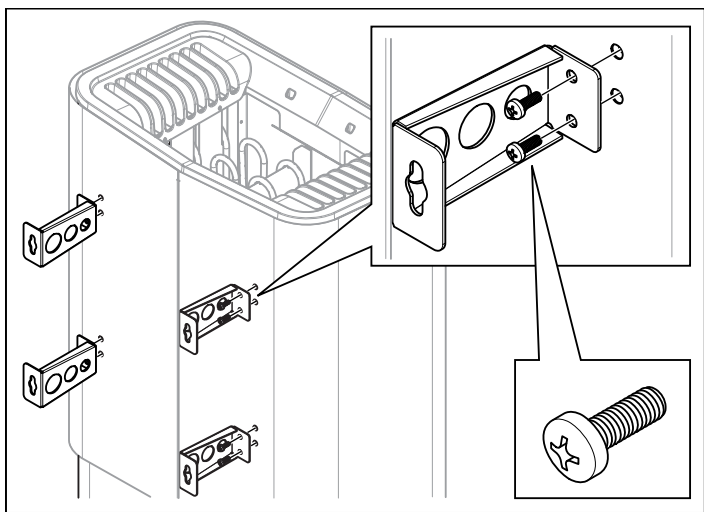

Figure 7: Attaching the brackets to the heater
5. Unscrew the first two screws on the back of the heater and screw one of the four brackets into place. Repeat the procedure until all of the brackets are fitted see Figure 7.